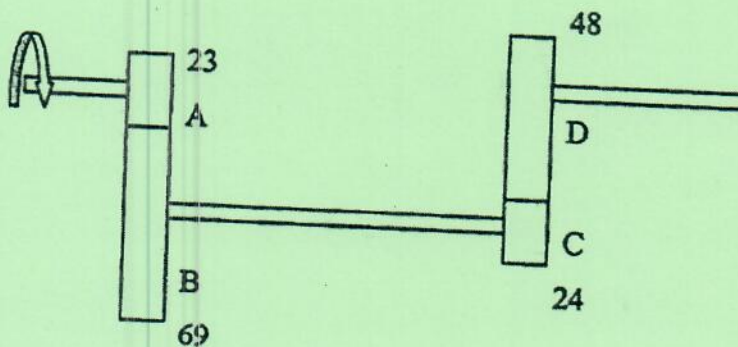

Figure 1 Engaged gears of a gear box when gear selection lever is at 1
- c) Figure 1 shows the arrangement of gears in a gearbox for transmission of power in the first gear.